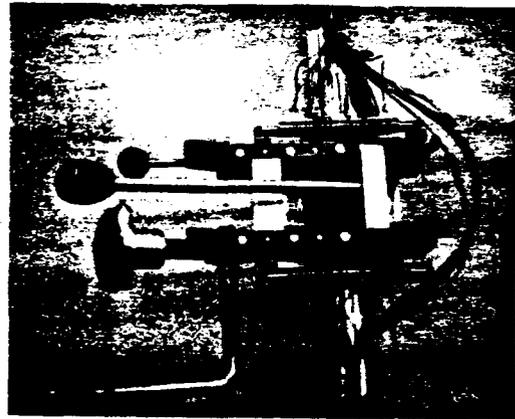

FIG. 28 CLOSING FORMING HEAD
4.315 Carefully close the forming head handle all of the way to the stop. (If for any reason there is excessive or undue resistance to the forming head stuffer as they press the wires around the mandrel, it may be caused by two wires in the same slot; if so, corrective action should be taken before continuing). See Fig. 28.